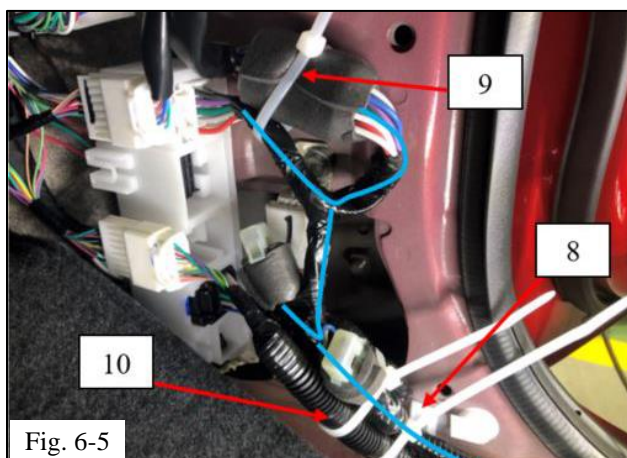

Fig. 6-5
- (e) Secure the body wire harness to the vehicle harness using wire tie #8. Secure the 10 pin connectors and fuses to the vehicle wire harness with wire ties #9 and #10 (Fig. 6-5).